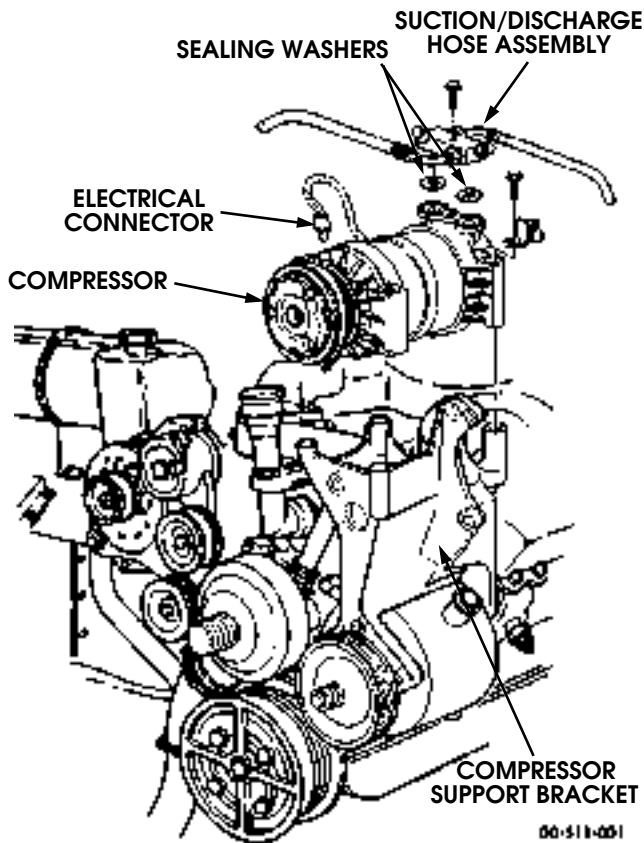

Figure 11-25: Air Conditioner Compressor and Mounting Hardware
2. Disconnect electrical connector from compressor (Figure 11-25).
2. Secure compressor to compressor support bracket with four bolts (Figure 11-25).